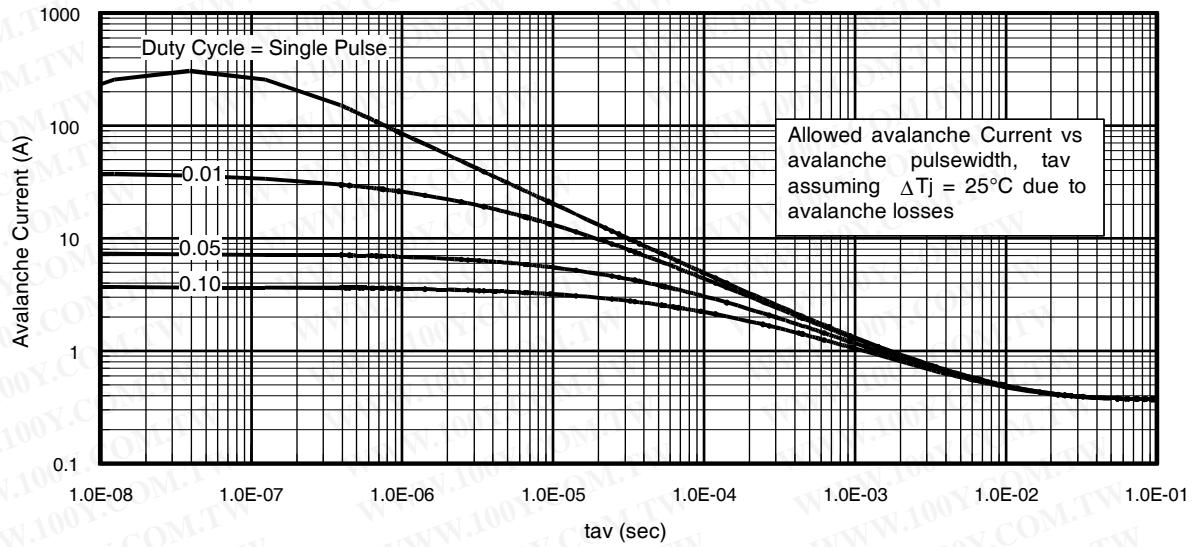

Fig 15. Typical Avalanche Current vs.Pulsewidth
**Notes on Repetitive Avalanche Curves , Figures 15, 16:
7. $\Delta T = \text{Allowable rise in junction temperature, not to exceed } T_{j\max} \text{ (assumed as } 25^\circ\text{C in Figure 15, 16).}$